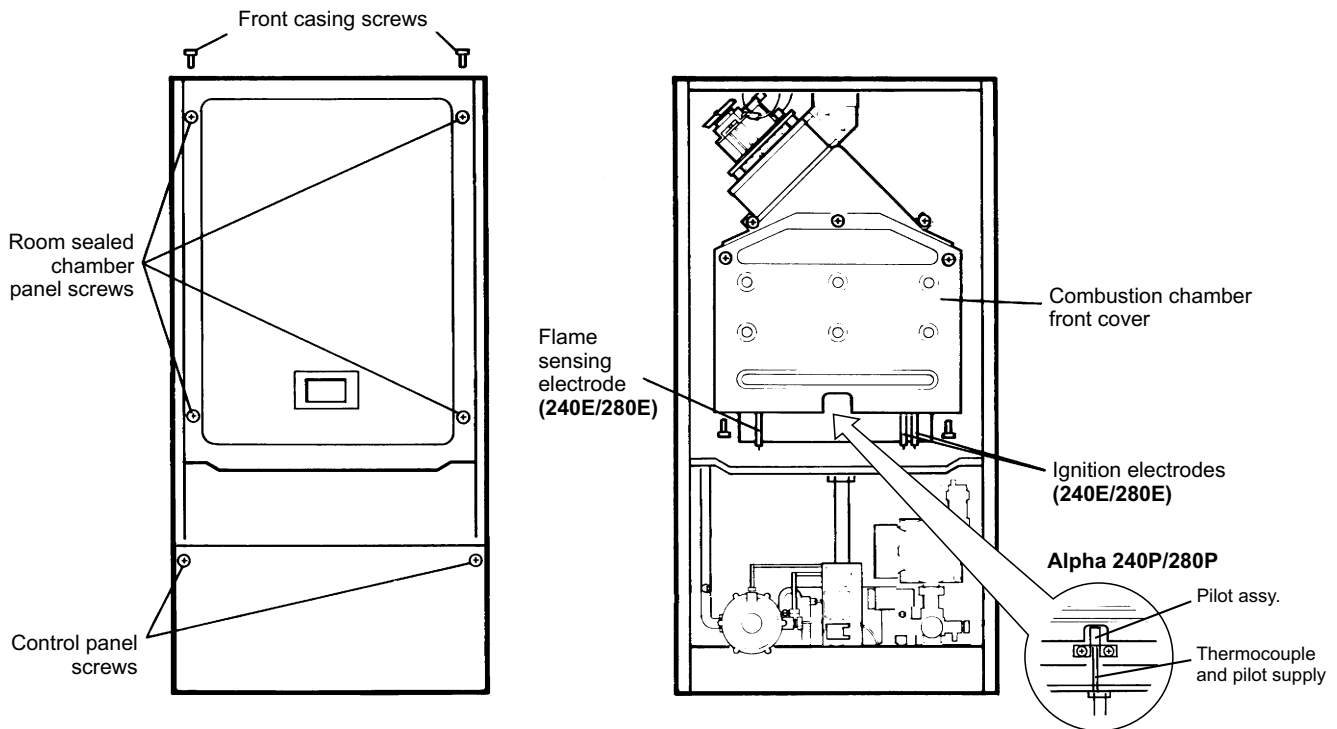

Fig. 18
7.2 PREPARE FOR SERVICING - Fig. 18
Alpha 240P and 280P - Check the condition of the pilot assembly, removing any carbon deposits from the thermocouple tip. Disconnect the pilot supply from the pilot burner, carefully withdraw it and remove the injector. Check the condition of the pilot injector and clean if necessary. Refit the pilot injector over the pilot supply and reconnect it to the pilot burner (see Fig. 18).